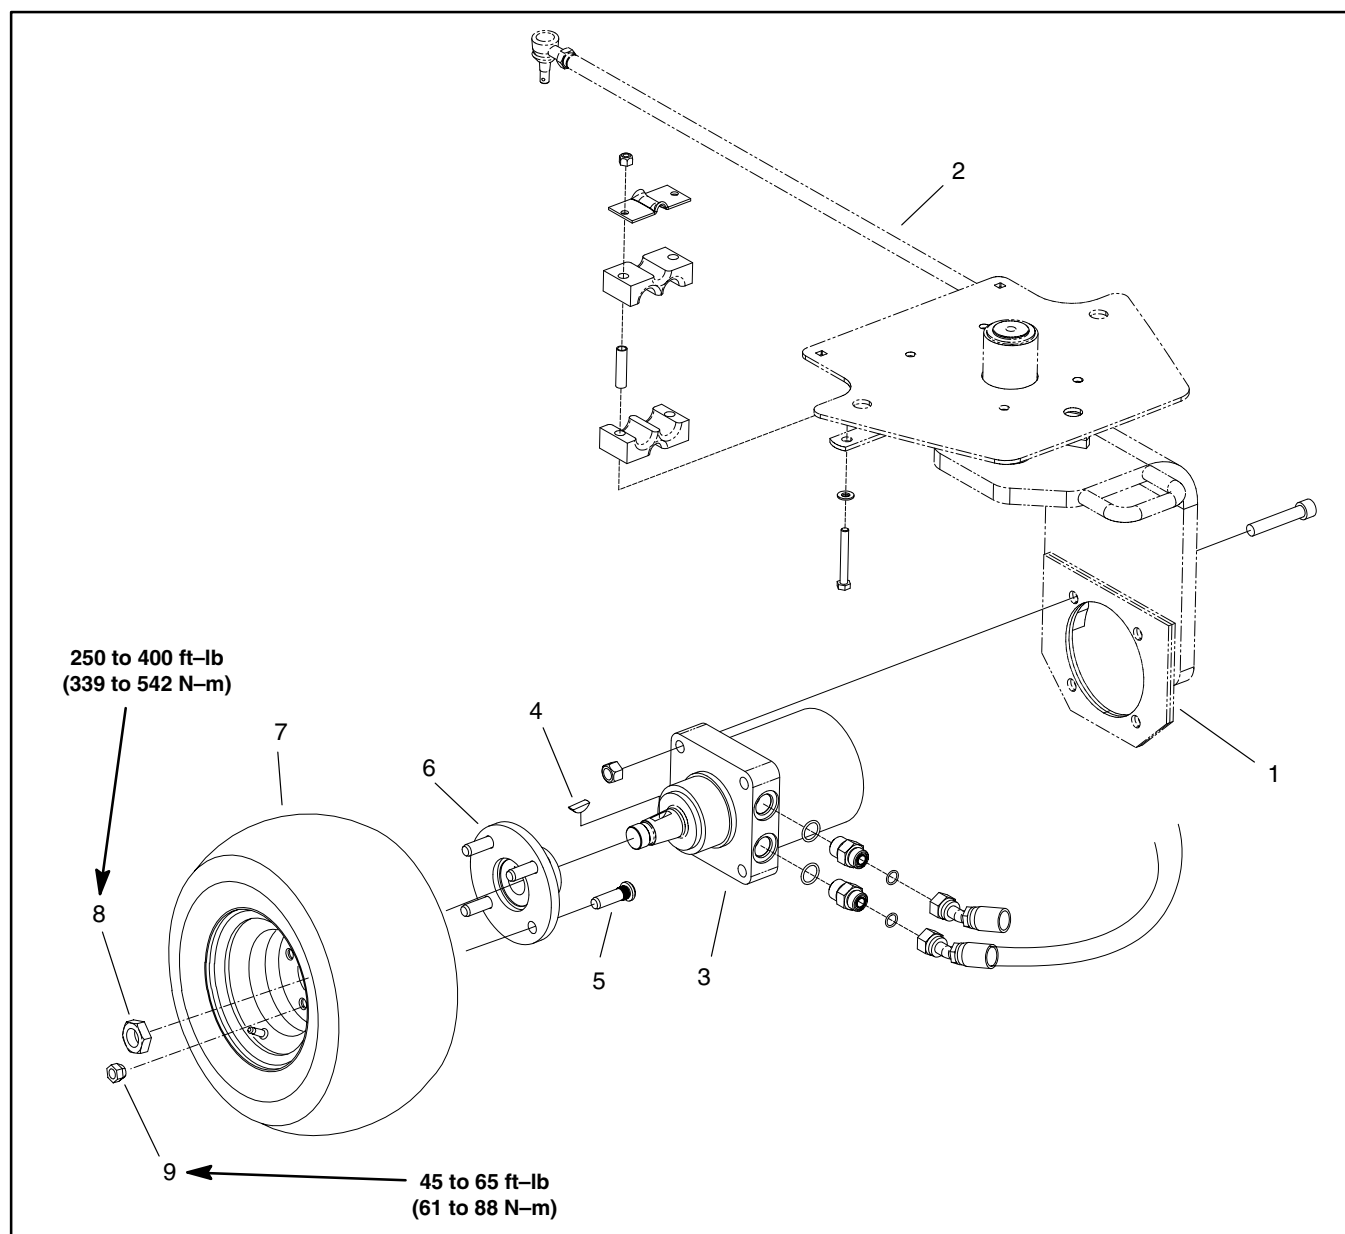

Figure 2
**Removal (Fig. 2)**
**IMPORTANT: DO NOT hit wheel hub (6) with a hammer during removal or installation. Hammering may cause damage to the wheel motor.**
**Installation (Fig. 2)**